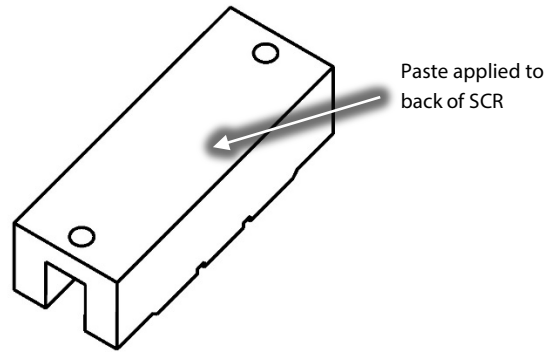

Figure 5 – Heat Sink Paste Application
2. Take a diode and spread a thin and uniform coat of Dow Corning Silicone Heat Sink paste (or equivalent) entirely over the bottom of each diode surface. Refer to Figure 5 (Heat Sink Paste Application).